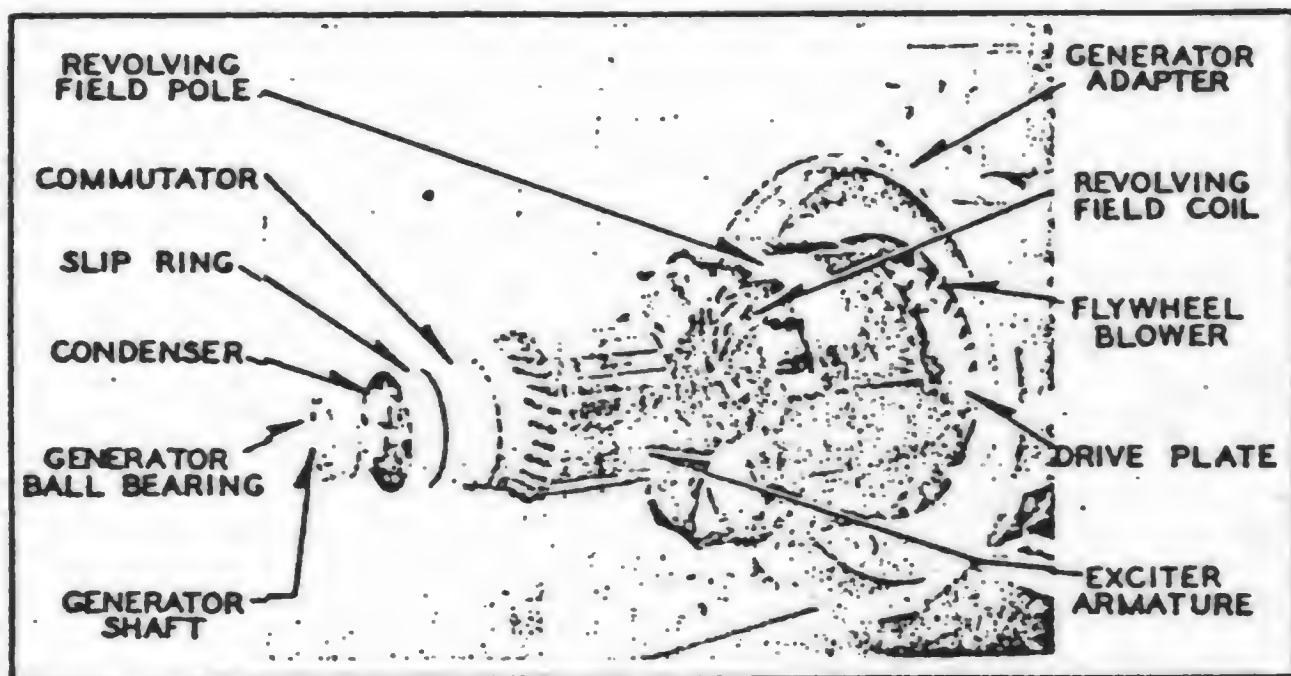

FIG. 13 ROTOR ASSEMBLY
**a. Purpose.**—The generator, Figs. 13 and 40, receives mechanical power from the engine and converts it to electrical power. It consists of a d-c exciting generator and a revolving field type of alternator.